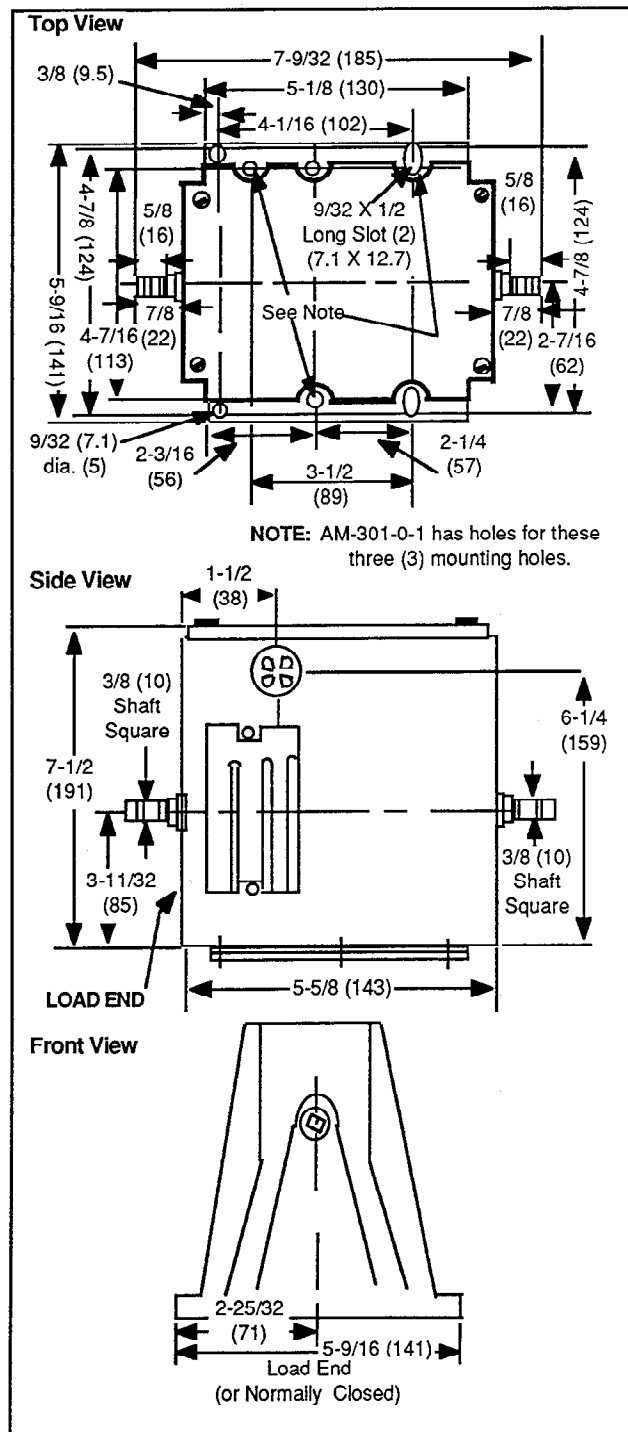

Figure 1. Mounting Dimensions for MMR-400, MMR-500 Series
Dimensions: 7-1/4" high x 5-9/16" wide x 5-5/8" deep (184 mm x 141 mm x 143 mm), See Figure 1.
Mounting (See Figure 1 for mounting dimensions).
Motor Location: The motor can be mounted in any position in a weather protected area. Seven 9/32" (7.1 mm) mounting holes for 1/4" screws or bolts are provided in the base of the motor (see Figure 1). Two (2) mounting screws or bolts on one side and one (1) screw on other side of motor are the minimum number of required fasteners. Locate the motor as close to the damper as possible.